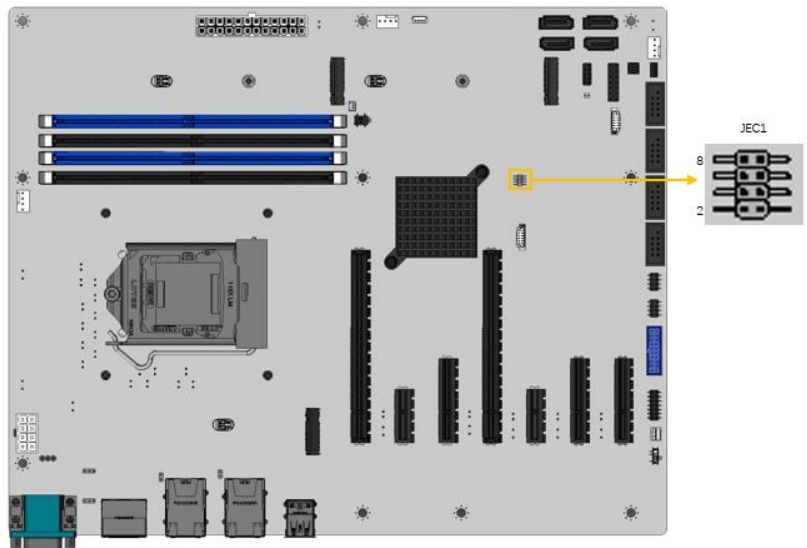

Figure 3-27: Flash EC ROM Connector Location
- CN Location:** See Figure 3-27